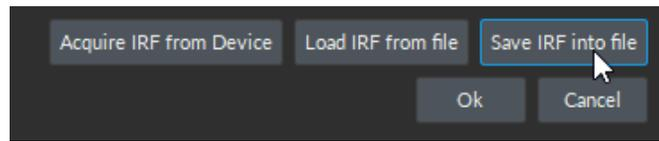

Figure 5.13: *Save IRF to file for post-processing*
- If the experiment cannot be restarted. Finish the recording. Then retake the IRF and save it in a different file using the *Save IRF into file* button (Fig. 5.13). If you are already mid-recording, don't panic! Since the software also saves the raw data containing all waveforms, we can **recalculate the lifetime using the new IRF during post-processing analysis**.